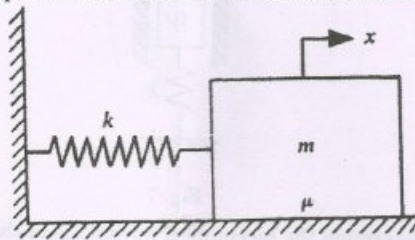

Fig. 5
- (b) A block of mass 1 kg moves over a flat surface, the coefficient of friction being 0.3. A spring of stiffness 150 N/m connects the block to a wall as shown in Fig. 5. The block is pulled through a distance of 50 mm away from the wall and is released with a velocity of 0.6 m/s towards the wall. Find out the period for which the block will oscillate before coming to rest and also the position of the block when it comes to rest.